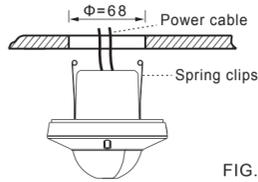

FIG.13
3.4.2.4 Close up sensor's two spring clips and insert sensor into the drilled hole on ceiling (See FIG.13).